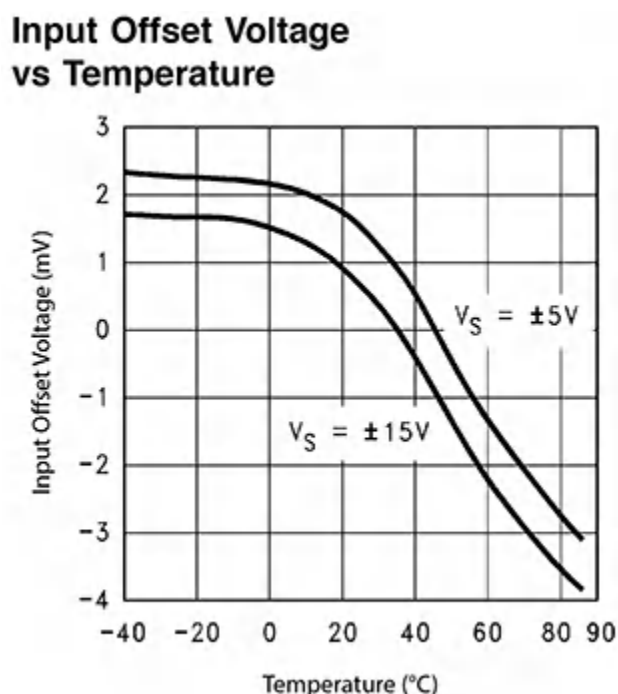

Figure 1. Large Changes in Temperature Can Degrade Component Performance
The amount of current flow in a system greatly impacts its reliability. An increase in current correspondingly increases an integrated circuit's (IC) junction temperature. And increasing junction temperatures can negatively impact performance such as IC voltage offset or gain errors (Figure 1). In extreme cases, junction temperatures can exceed the maximum operating conditions, permanently damaging the IC and causing system failure.